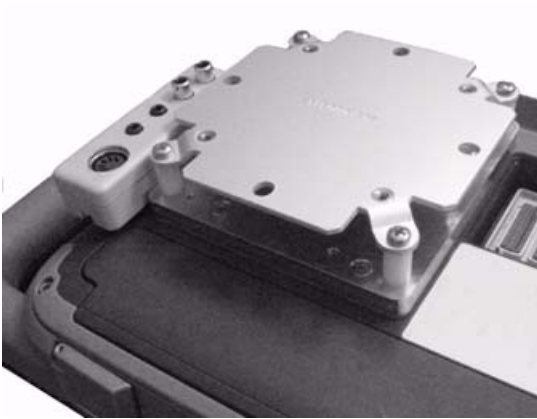

Figure 1 VESA mounting adapter and spacers connected to the NanoMaxx ultrasound system
**2** Attach the ultrasound system to the wall mount, using the VESA mounting adapter and four 1/2" nylon spacers. (See Figure 1.) See *Installation Guide: Mounting Kit for 75/100mm VESA® Compatible Flat Panel Displays*.